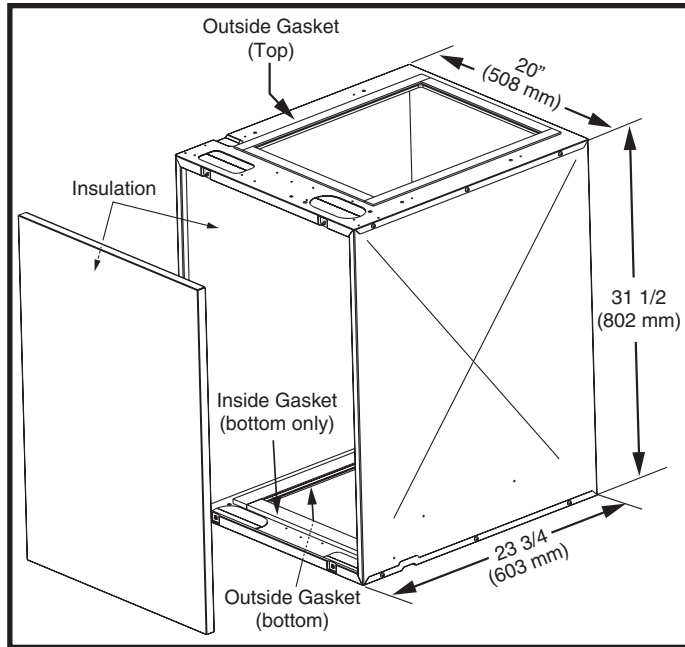

Figure 1. Coil Cabinet Dimensions
This coil cabinet is designed for upflow or downflow installations. The cabinet is factory equipped with insulation to ensure a sealed fit with the electric furnace. The outside top and bottom are factory equipped with gasketing to ensure a sealed fit with the electric furnace. See Figure 1.
1. Position the upflow stand kit (or other mounting platform) over the opening in the floor. **NOTE:** Make sure the airflow opening in the upflow stand is properly aligned and unrestricted over the opening in the floor. See installation instructions provided with the furnace for floor cutout dimensions. Coil cabinet dimensions are shown in Figure 1.
1. Position the downflow furnace over the opening in the floor. See installation instructions provided with the furnace for floor cutout dimensions. **NOTE:** Make sure the airflow opening in the furnace is properly aligned and unrestricted over the opening in the floor. See installation instructions provided with the furnace for floor cutout dimensions. Coil cabinet dimensions are shown in Figure 1.
NOTE: Make sure the airflow opening in the furnace is properly aligned and unrestricted over the opening in the floor. See installation instructions provided with the furnace for floor cutout dimensions. Coil cabinet dimensions are shown in Figure 1.